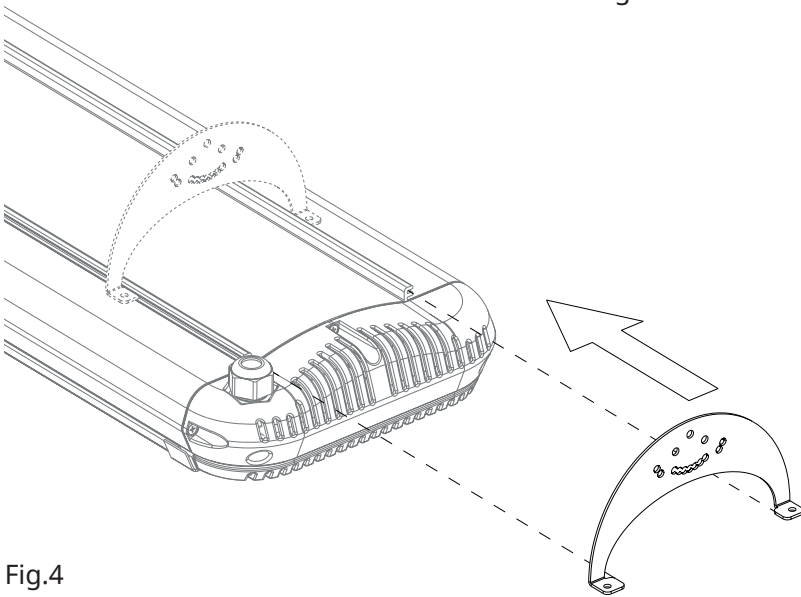

Fig.4
3. Insert the arch-shaped brackets in the special rail on the top of the heater. Fig.4.